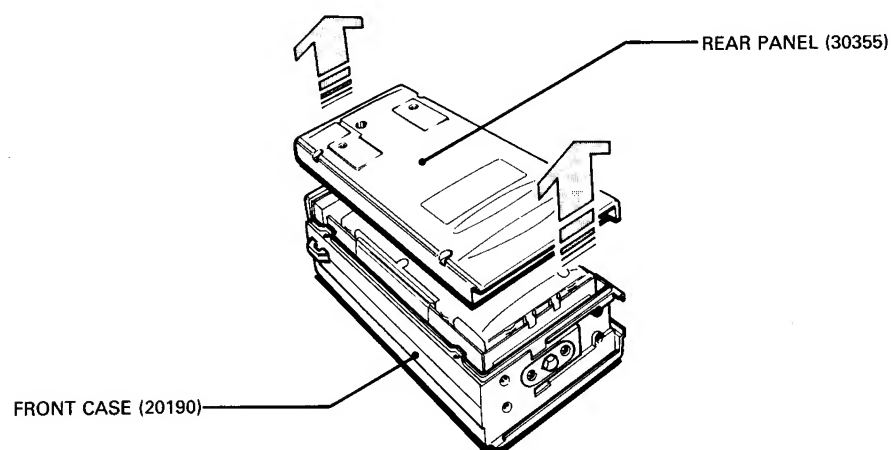

Fig. 5-1-2
3. Remove the REAR PANEL as shown in Fig. 5-1-2.